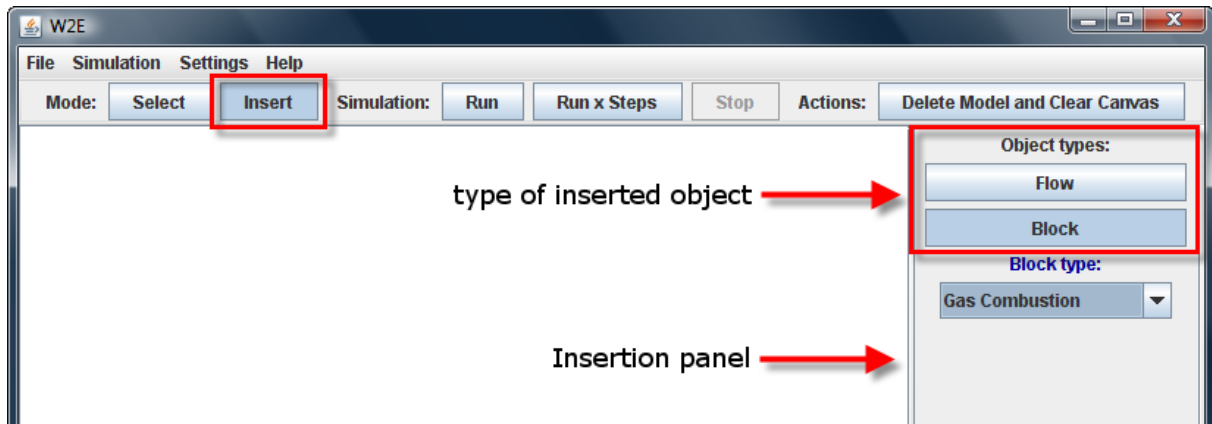

FIG. 2: Insert mode
1. *Insert mode* (Fig. 2), where blocks and flows are inserted and flow connections (between output of one block and input of a following block) are done.